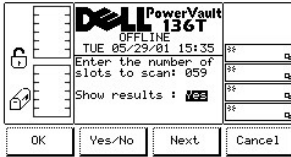

Figure 42. Command > Move > Scan Barcode > Confirm Dialog
- 1 If the button beneath the **Next** softkey is pressed, the next field in the list is made the active field. Refer to Figure 42.